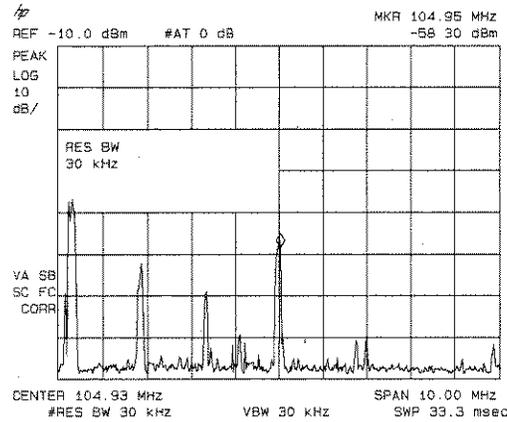

Figure 3-18. Decreasing Resolution Bandwidth
2. Press **[BW]** then **[↓]**. The low-level signal appears more clearly because the noise level is reduced. See Figure 3-18.